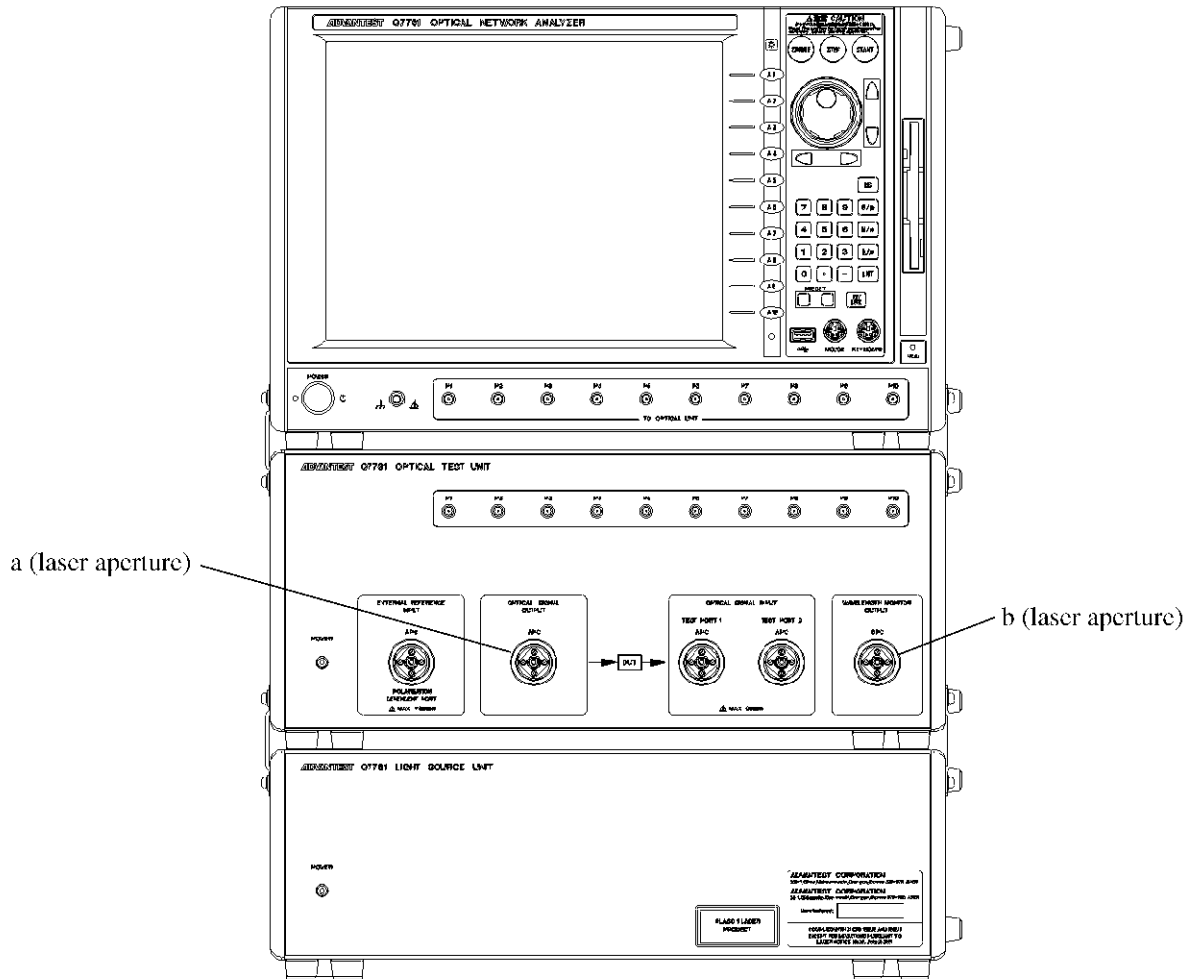

Figure-4 Position of Laser Apertures on the Front of the Q7761
1. Never attempt to emit a laser beam and must attach an attached light shield cap when no optical fiber cords are connected to optical output connectors on the front of the Q7761. (see "a" and "b" of Figure-4)